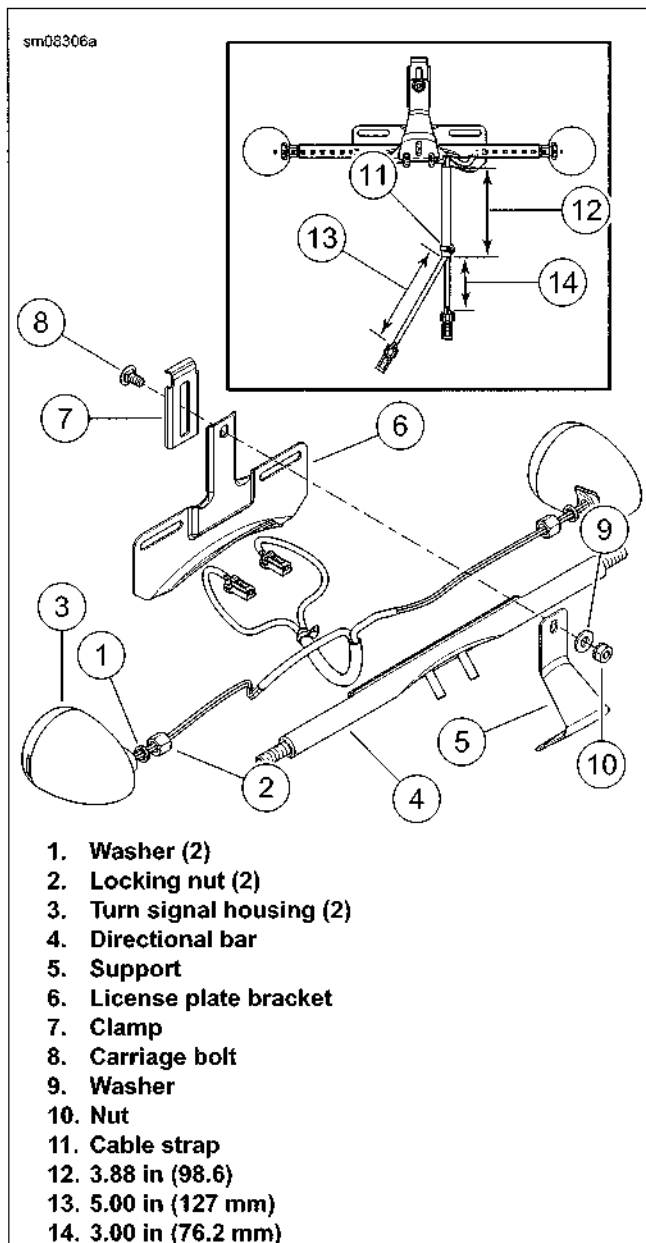

Figure 6-72. Turn Signal and Directional Bar Assembly
1. See Figure 6-72. Install locking nut (2) and lockwasher (1) on the directional bar (4).
2. Thread the wire leads from the turn signal housing (3) through the directional bar.
7. Route the right wire lead conduit along the bottom of the license plate bracket (6).
9. Assemble turn signal bar to clamp (7), license plate bracket (6) and support (5) with carriage bolt (8). Install washer (9) and nut (10). Hand tighten nut.
11. Secure the vinyl tubing 1/4 in (6.4 mm) from the end with a cable strap (11).